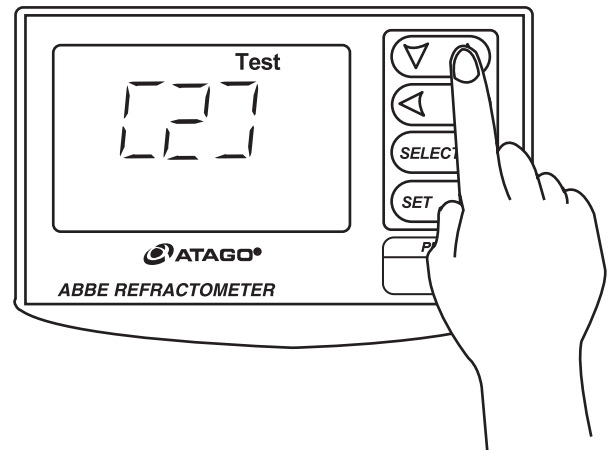

Fig. 10-2
② Change the indication [1] to [2] by pressing the V or ^ key. As the indication [1] changes to [2], press the SET key to select it (Fig. 10-2).